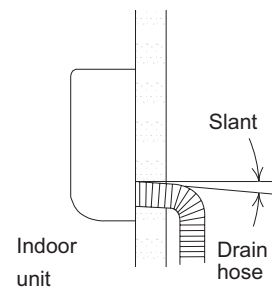

Fig. 2-229
- a) The drain hose should be slanted downward to the outdoors. (Fig. 2-229)